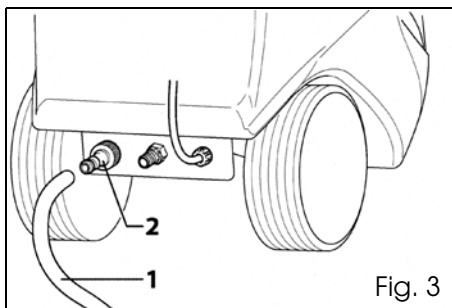

Fig. 3
1. Connect the water supply hose (1) to the inlet connection (2). See Fig. 3.